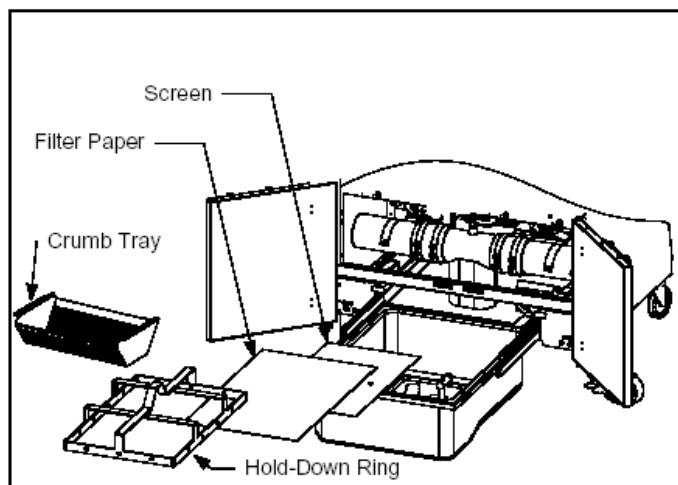

Figure 1
1. Pull the filter pan out from the cabinet and remove the crumb tray, hold-down ring, filter paper and filter screen. (See Figure 1) Clean all components with a solution of detergent and hot water, then dry thoroughly. 将滤油盘从炉体中拉出, 除去碎屑盘, 压框, 滤油纸和滤油网格(见Figure 1)。用清洁剂和热水清洁所有部件, 并彻底晾干。
3. Then in reverse order, place the metal filter screen in the center of the bottom of the pan, then lay a sheet of filter paper on top of the screen, overlapping on all sides. (See Figure 1) If using a filter pad, ensure the rough side of the pad is up and lay the pad over the screen, making sure that the pad is in between the embossed ridges of the filter pan. 然后按照相反次序将金属网格放到滤油盘底部, 然后将滤油纸放到滤油网格的上面, 要注意四角都留有余地(见Figure 1)。如果使用滤油板, 要确保滤油板在